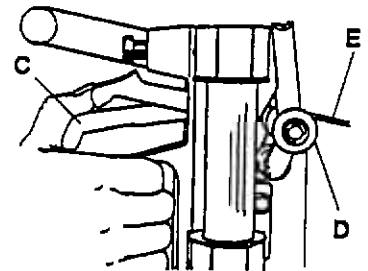

Figure 20
7. Raise the CUTTING HEAD and depress the LONG THUMB LEVER (C) to push the white BREAK OUT ROLLERS (D) against the plastic (E) near the top edge as in Figure 20. Press on the LONG THUMB LEVER until you hear the cracking sound of the plastic breaking. While holding this same pressure on the ROLLERS, bring the CUTTING HEAD all the way down as far as it will go. The plastic will have broken along the score line.